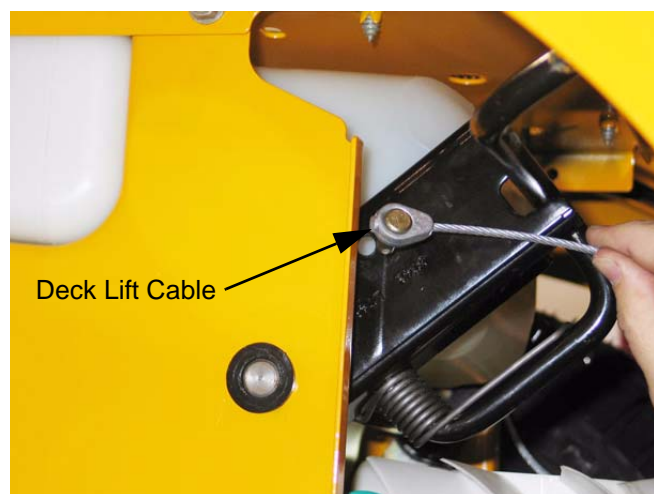

Figure 13.9
- 13.9. Remove the hairpin clip that secures the pin on the top end of the cable to the arm on the deck lift shaft. See Figure 13.9.